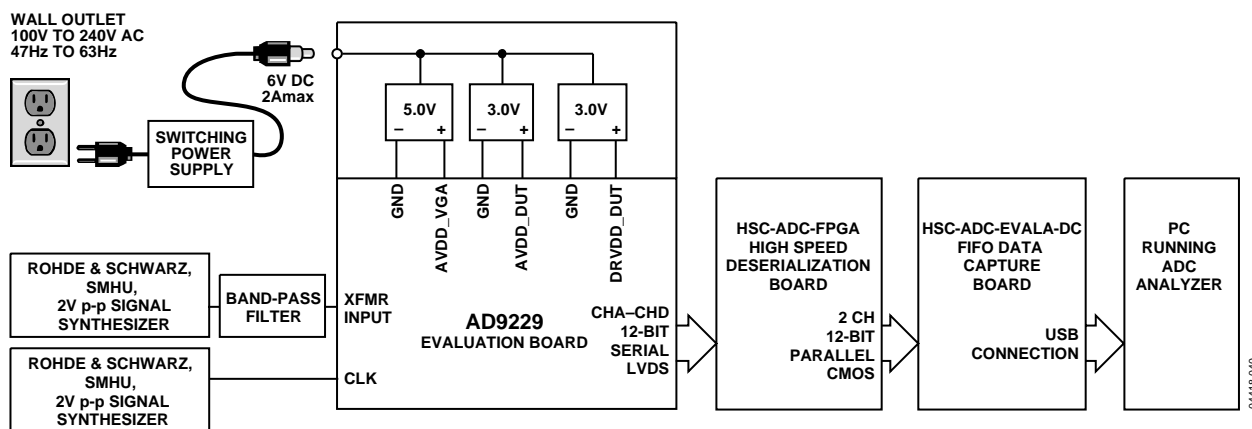

Figure 47. Evaluation Board Connections
The AD9229 evaluation board provides all of the support circuitry required to operate the ADC in its various modes and configurations. The converter can be driven differentially through a transformer (default) or through the AD8332 driver. The ADC can also be driven in a single-ended fashion. Separate power pins are provided to isolate the DUT from the AD8332 drive circuitry. Each input configuration can be selected by proper connection of various jumpers (see Figure 48 to Figure 52). Figure 47 shows the typical bench characterization setup used to evaluate the ac performance of the AD9229. It is critical that the signal sources used for the analog input and clock have very low phase noise ( $<1$  ps rms jitter) to realize the ultimate performance of the converter. Proper filtering of the analog input signal to remove harmonics and lower the integrated or broadband noise at the input is also necessary to achieve the specified noise performance.
See Figure 47 to Figure 57 for complete schematics and layout plots that demonstrate the routing and grounding techniques that should be applied at the system level.
- **D+, D-:** If an alternate data capture method to the setup described in Figure 47 is used, optional receiver terminations, R205 to R210, can be installed next to the high speed backplane connector.